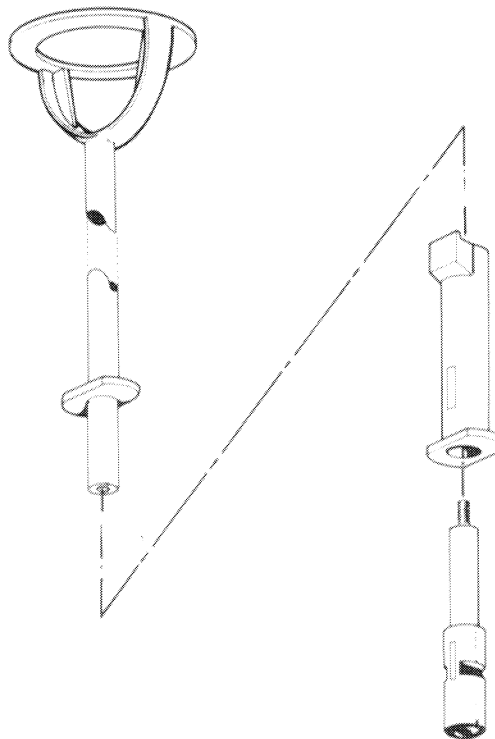

Fig. 14 Antenna extension
2. Fit the side antenna support into the extension antenna support - outer, as indicated in fig. 14. The projection on the outer extension should engage in one of the two flats in the side antenna support.